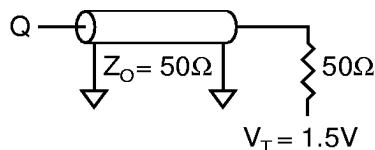
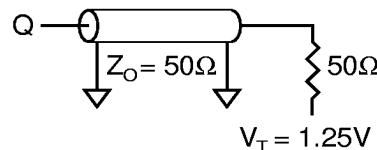

Figure 1
Figure 3
1. Test conditions as specified with the output loading shown in Figure 1 for 3.3V I/O ($V_{DDQ} = +3.3V \pm 0.3V/-0.165V$) and Figure 3 for 2.5V I/O ($V_{DDQ} = +2.5V \pm 0.4V/-0.125V$) unless otherwise noted.
Output load	See Figures 1 and 2
Output load	See Figures 3 and 4